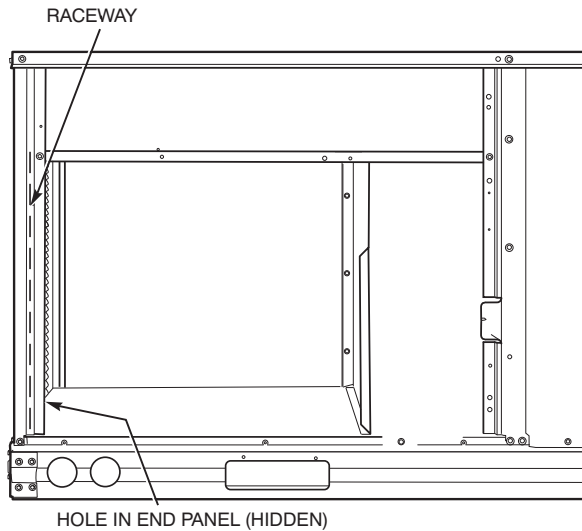

Fig. 34 — Field Control Wiring Raceway
— Pass the thermostat control wires through the hole provided in the end panel (see item “D” in the view labeled “LEFT” in Fig. 2 or Fig. 3); then feed the wires through the raceway built into the corner post to the control box. Pull the wires over to the terminal strip on the upper-left corner of the Central Terminal Board (CTB). See Fig. 34.
2. Feed wires through the raceway built into the corner post (see Fig. 34) to the 24-v barrier located on the left side of the control box. The raceway provides the UL-required clearance between high-voltage and low-voltage wiring.